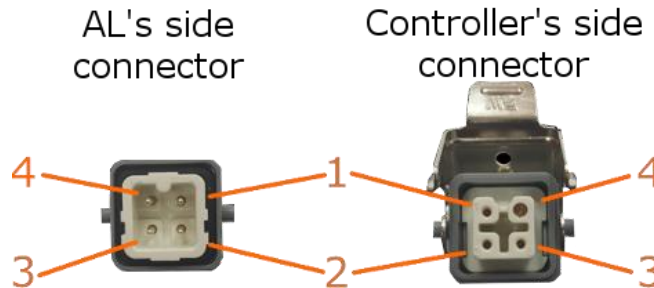

Figure 3
2. Connect the **AL Egg counters** according to the instructions in Figure 3 and Table 1.